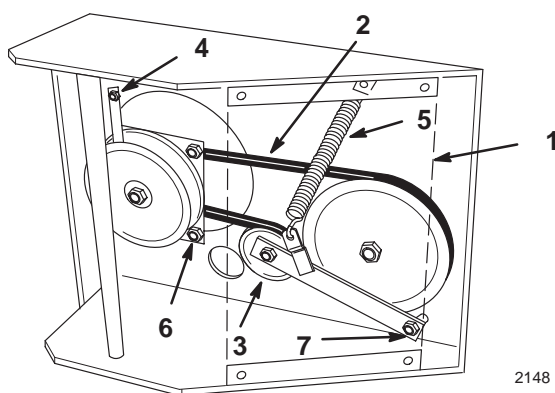

Figure 32
1. Raise the front of the machine and hold with jack stands. Remove lower shield (4) bolts.
3. Remove left front engine mounting bolt securing clutch retainer to frame (Fig. 32). Unhook retainer from clutch and remove retainer.
4. Unhook tension spring from side of frame (Fig. 32).
7. Torque pivot bolt to 47-54 N.m (35-40 ft. lb.) Install tension spring between idler arm and frame bracket (Fig. 32).